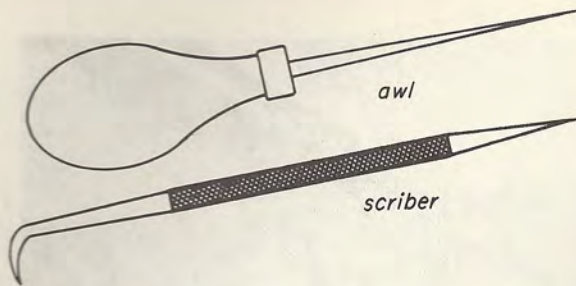
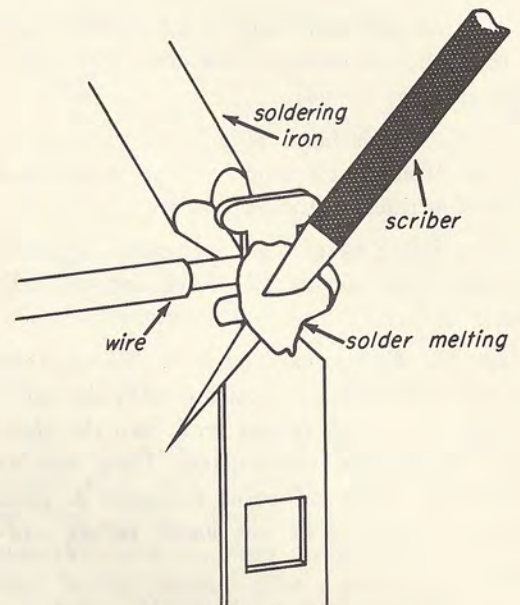

Fig. 1-17
Fig. 1-18
Step 2. Apply the hot tip against the joint on lug #2. When the solder is melted, insert the scribe or the awl (Fig. 1-17) in the loop of the wire (Fig. 1-18). Carefully open the loop without bending or breaking the lug. When the loop is opened wide enough, slip the wire off the lug. Clean the solder off the lug with the cloth.